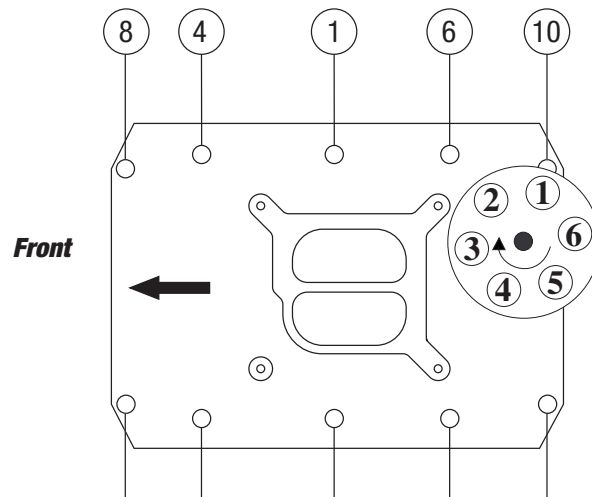

Figure 2 - Intake Manifold Bolt Torque Sequence
- 5) Install the intake manifold and hold-down bolts. Torque all of the manifold bolts in two steps by the sequence shown in Figure 2 to 25 ft/lbs.